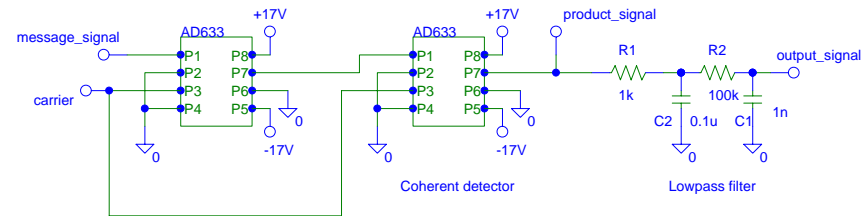

Fig. 2 Coherent demodulation of DSB signals
1. Keeping the power supply off, assemble the circuit of Fig. 2. Use FG1 as the message signal and FG2 as the carrier signal. Set the following parameters in FG1: Amplitude=5 V, Frequency=500 Hz, sine wave. For FG2: Amplitude=10 V, Frequency=9 kHz, sine wave. Connect channel 1 probe of the oscilloscope to observe the product signal (at pin 7 of the second AD633), and the channel 2 probe to the output of the filter to observe the recovered message signal.
4. Observe from plot P3 that the envelope of the product signal has the shape of the message signal, which is recovered as the output signal in plot P4. Plot P5 shows that the message signal is a triangle wave, however plot P6 shows a recovered signal that resembles more closely a sine wave, (a) explain why a triangle wave was not recovered. [2]. (b) What modifications should be made to the circuit of Fig. 2 in order to recover the triangle wave? [2].
5. Plot P7 shows the output signal  $y(t)$  when  $\Delta f = 0$  and  $\theta = 0$ . Estimate its peak amplitude (in volts). Using Eq. (6) and the value of the phase offset  $\theta$  you measured during the lab, (a) calculate the peak amplitude of the output signal when is affected by the phase offset in the local carrier. [2]. Plot P9 shows the output signal affected by a phase offset, (b) estimate the peak amplitude of this signal and compare it with the theoretical value just found. [2].